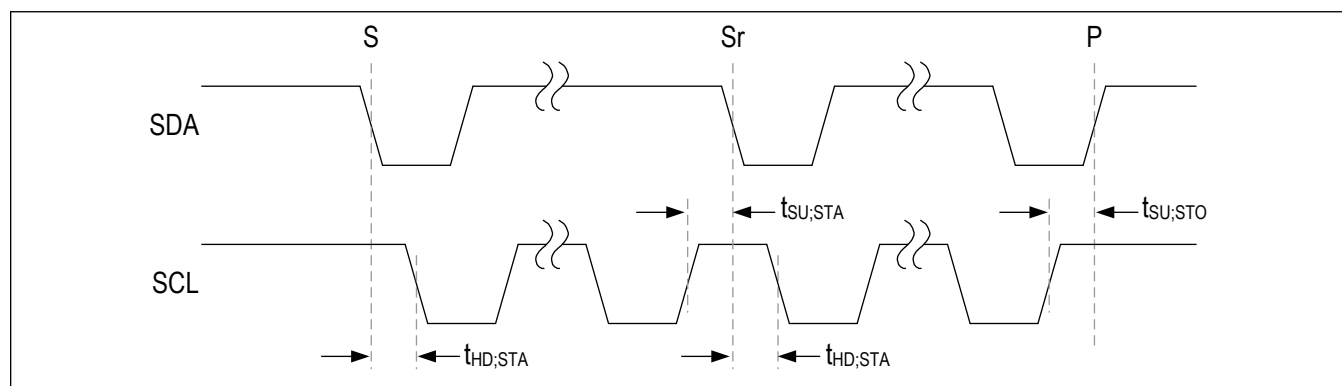

Figure 1. I²C Timing Diagram
The MAX20499 features an I²C, 2-wire serial interface that consists of a serial-data line (SDA) and a serial-clock line (SCL). SDA and SCL facilitate communication between the MAX20499 and the controller at clock rates up to 1MHz. The controller, typically a microcontroller, generates SCL and initiates data transfer on the bus. Figure 1 shows the 2-wire interface timing diagram.
A controller device initiates communication by issuing a START condition. A START condition is a high-to-low transition on SDA with SCL high. A STOP condition is a low-to-high transition on SDA while SCL is high (see Figure 1). A START (S) condition from the controller signals the beginning of a transmission to the MAX20499. The controller terminates